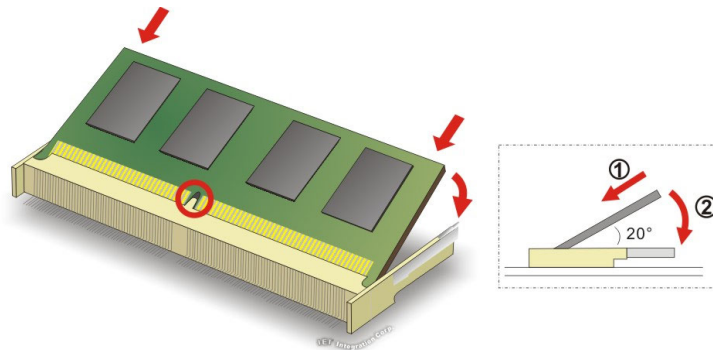

Figure 6-5: SO-DIMM Installation
Step 5: To install a new SO-DIMM, align the SO-DIMM so the notch on the memory module lines up with the notch on the memory socket (**Figure 6-5**).
Step 6: Push the SO-DIMM into the socket at an angle (**Figure 6-5**).
Step 7: Gently push downwards and the arms clip into place (**Figure 6-5**).